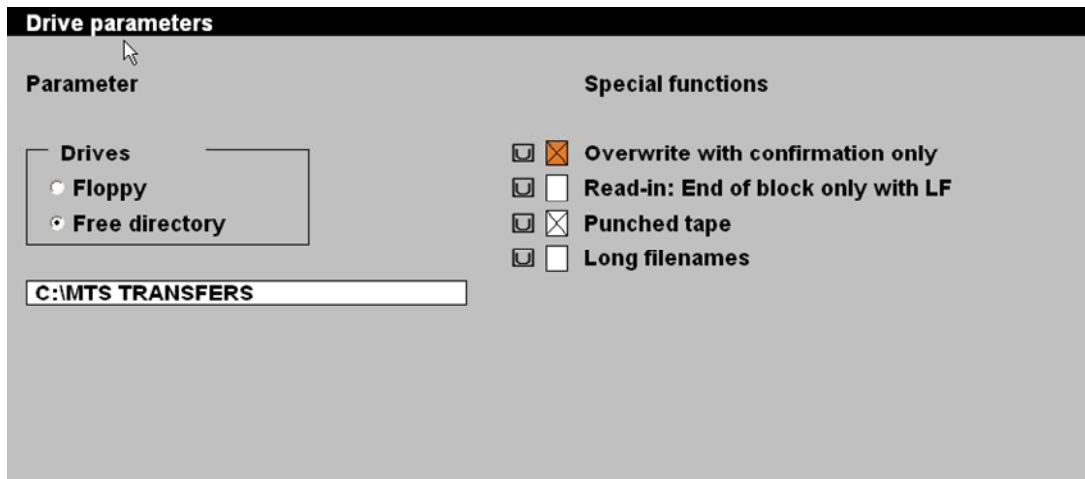

Fig.6.18: Shows the drive parameters.
22. Write the path "C:\MTS TRANSFERS" as shown in Fig.6.18